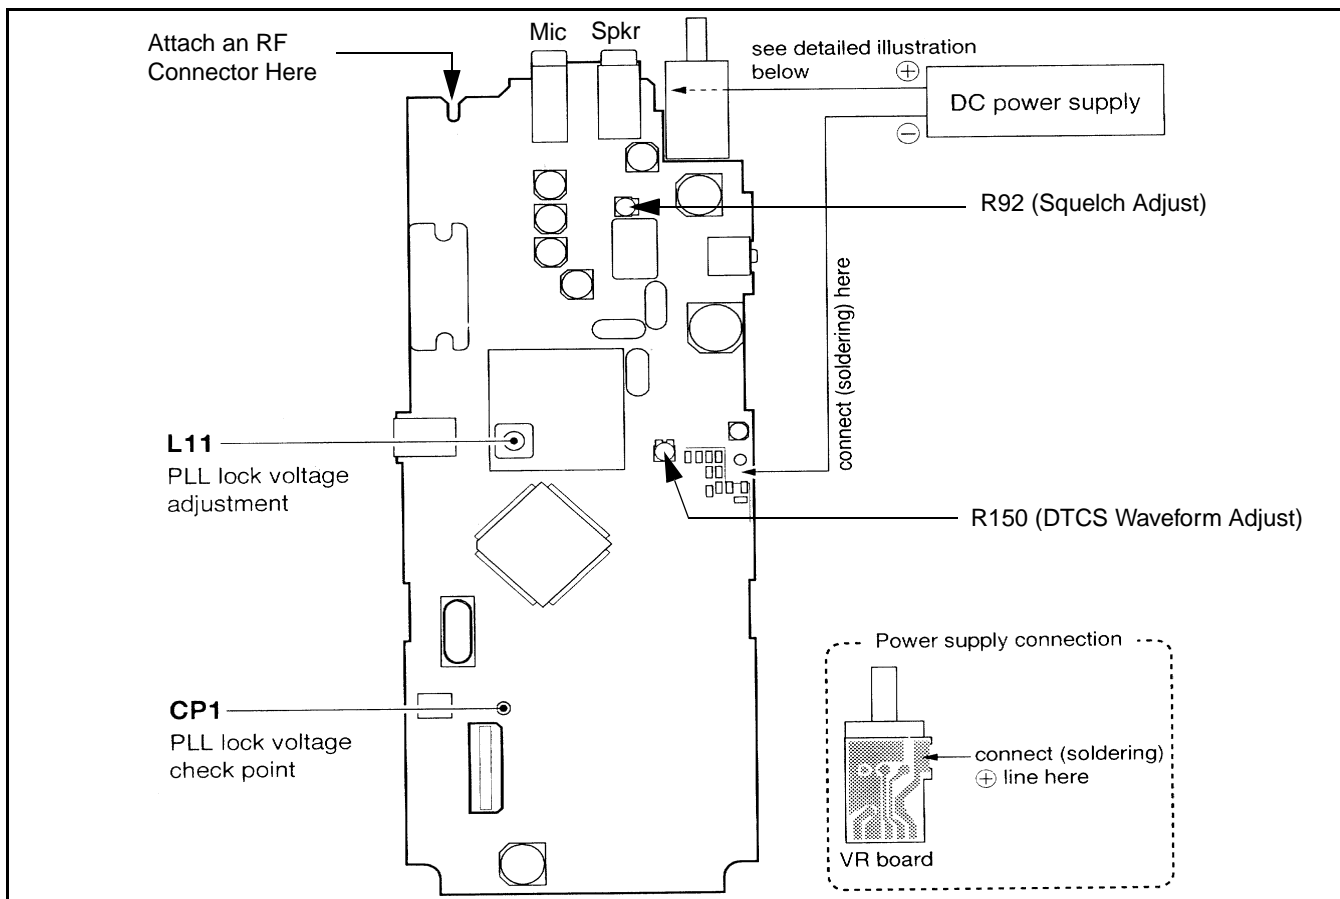
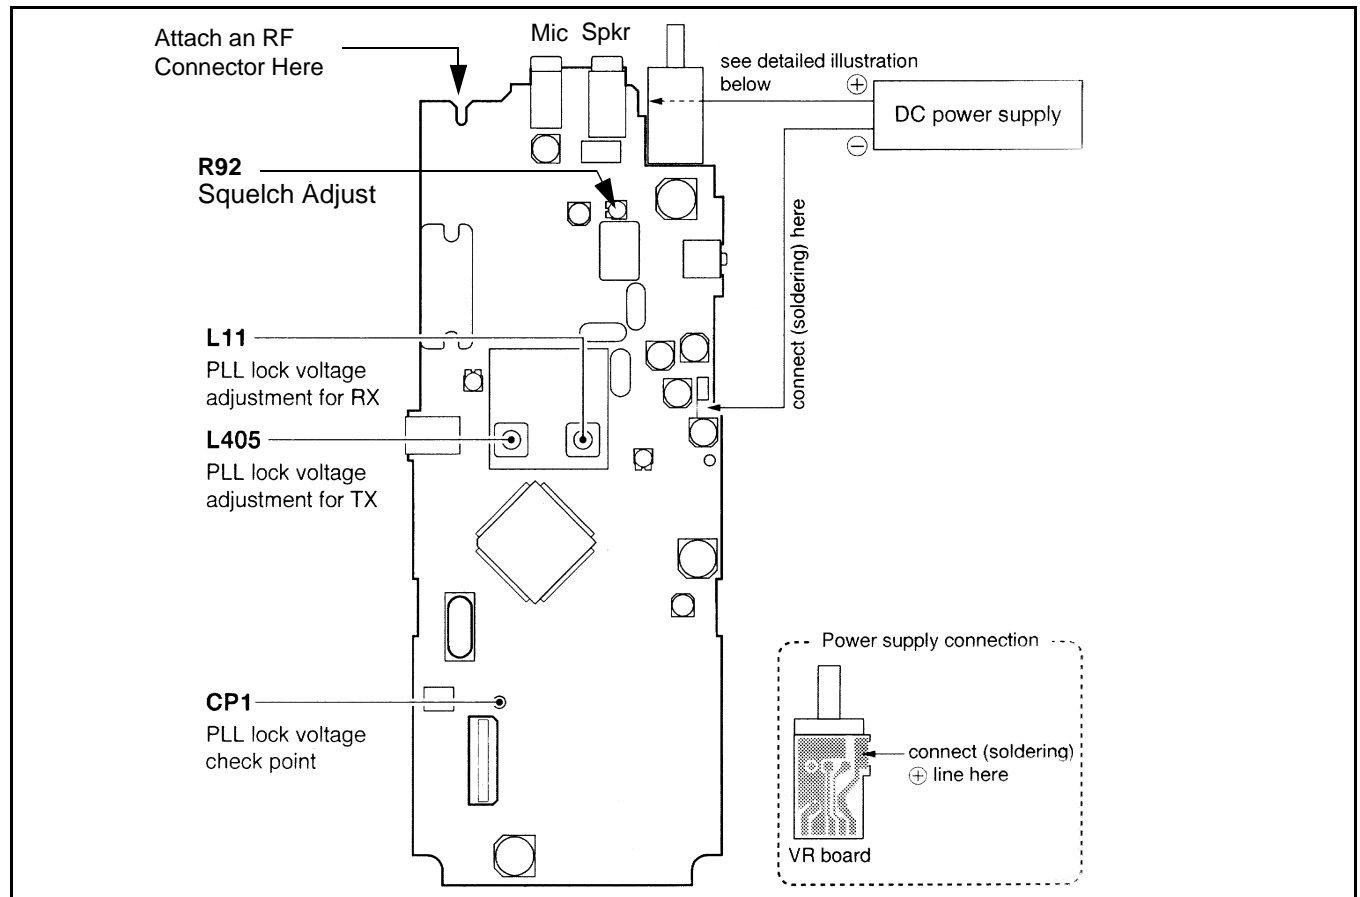

Figure 5-3 VHF Adjustment Points
Figure 5-4 UHF PLL Adjustment Points
- Connect a 9.6 VDC power supply to the board as shown in Figure 5-3 (VHF) or Figure 5-4 (UHF). The (+) lead connection point is on the VR board as shown in the detail, and the (-) lead is connected to the ground plane.
1. Connect a DC voltmeter probe to check point CP1 as shown in Figure 5-3 (access it by removing the rubber option cover if applicable). Select the channel on the high end of the band (150.000 or 174.000 MHz). With the computer setup, this is done by pressing the \uparrow \downarrow arrow keys to highlight "Memory CH" and then pressing the adjust keys (\leftarrow / \rightarrow , PgUp/PgDn, or spacebar/backspace) to select the channel.
2. Key the transmitter and adjust L11 (see Figure 5-3) for a meter reading of 3.0 volt (LB) or 4.3 V (HB).
- Adjust R150 (see Figure 5-3) for a flat waveform as shown below.
4. Preset R92 (see Figure 5-3) counterclockwise to open the squelch. Adjust the generator output level for 12 dB SINAD.
1. Connect a DC voltmeter to check point CP1 as shown in Figure 5-4 (access it by removing the rubber option cover if applicable). Refer to Table 5-1 and select the channel on the low end of the band (400.000 or 440.000 MHz). With the computer setup, this is done by pressing the $\uparrow \downarrow$ arrow keys to highlight "Memory CH" and then pressing the adjust keys (\leftarrow/\rightarrow , PgUp/PgDn, or spacebar/backspace) to select the channel.
2. In the receive mode adjust L11 (see Figure 5-4) for a meter reading of 1.3 volt.
4. Preset R92 (see Figure 5-4) counterclockwise to open the squelch. Adjust the generator output level for 12 dB SINAD.